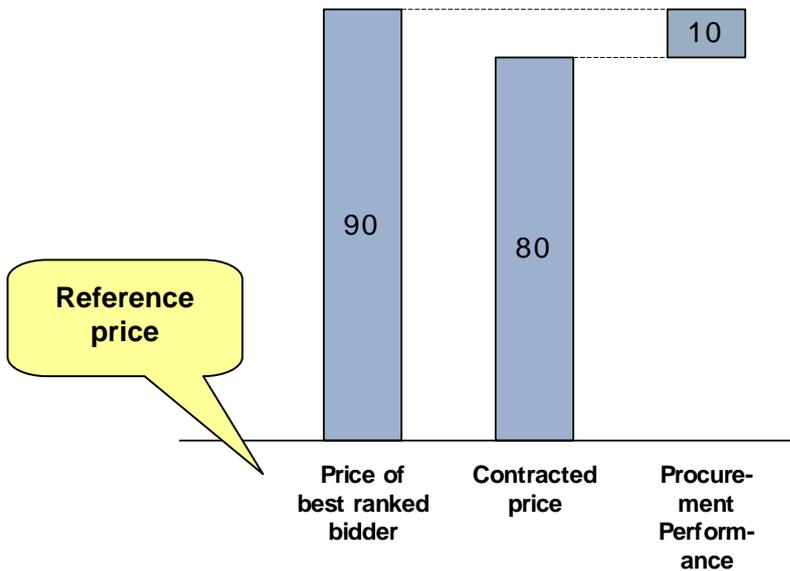

Figure 4: Closing of a new contract
- Figure 4: Closing of a new contract 14